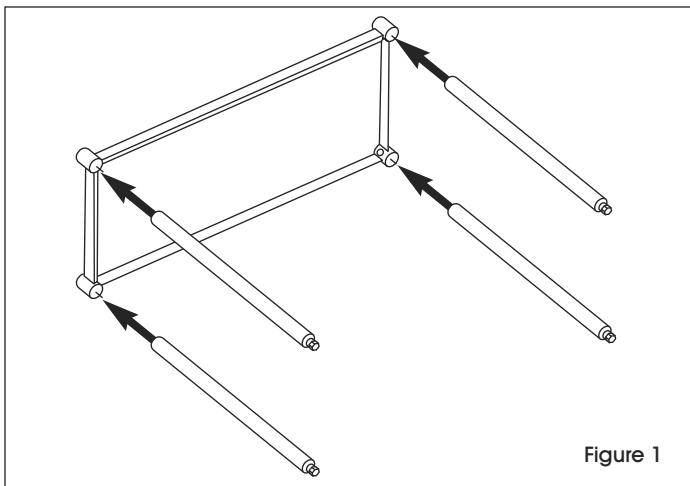

Figure 1
- With the undershelf on its side, push the legs through the collars to the desired height. To ensure exact height, mark desired height on each leg with magic marker or grease pencil. (See Figure 1)